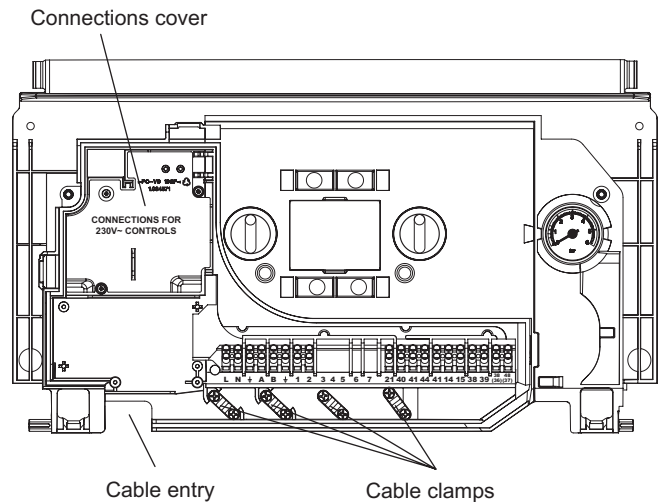

Fig. 4.8
Note: Do not remove the 230 V controls connection cover, see Fig. 4.8.
1. Remove the screw securing the connections cover labelled 'connections for 230V controls' to expose the receiver/clock connections. See Fig. 4.8.